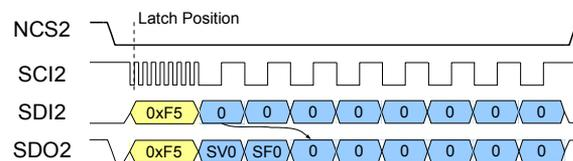

Figure 33: SDAD status
For compatibility issues with other iC-Haus products using this SPI protocol the SDAD status command is supported, i.e. sensor data can be requested using the opcode **SDAD status**. Each iC-RZ has one SVALID (SV) register to signal the end of conversion and one SFAIL (SF) register to signal a failing sensor data request. If iC-RZ is connected directly to the SPI master the SVALID (SV0) and SFAIL (SF0) bits are placed at bit positions 7 and 6 in the SVALID byte as shown in Figure 33.